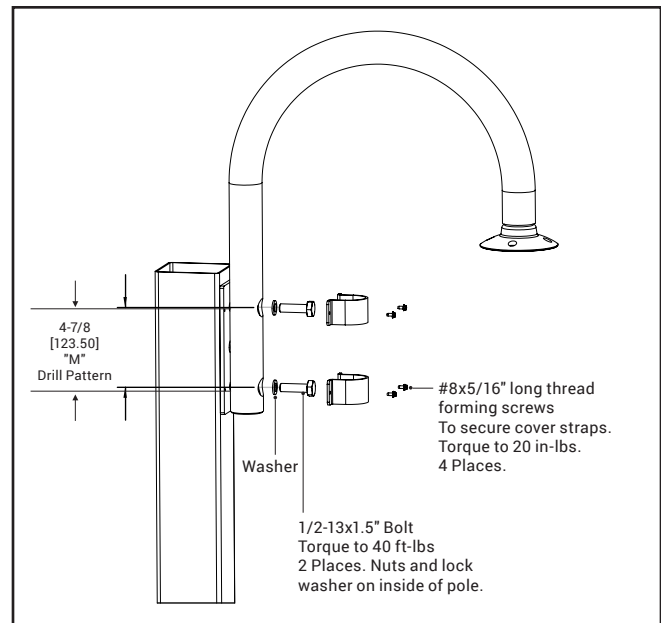

Figure 9.
3. Mount the bishop arm to the pole as shown in Figure 9.